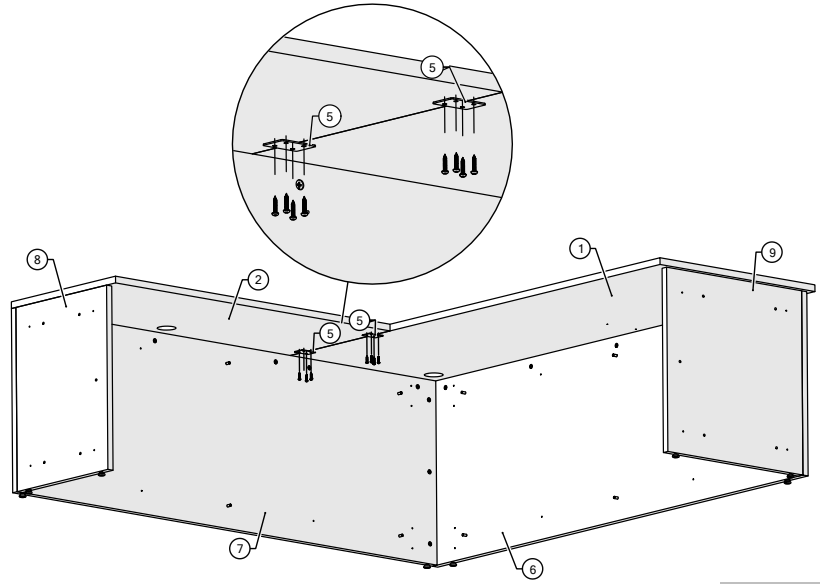

Figure 11
11. Attach the mending plates to the underside of the adjoining worksurfaces using #10 x 1" Pan Head Screws (Figure 11).